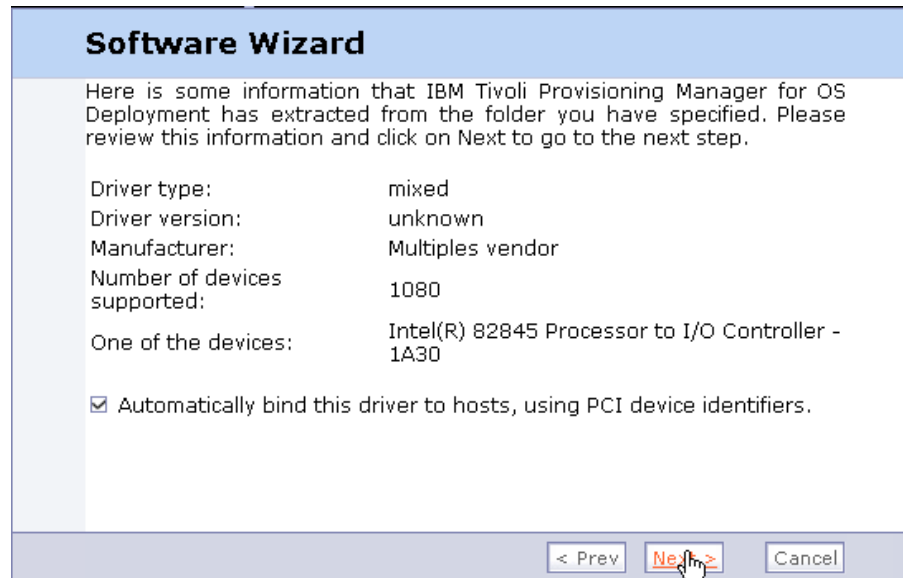

Figure 2-31
6. After selecting the directory, click **Next** and you should see the following. Notice that there is a checkbox for “Automatically bind this driver to hosts, using PCI device identifiers.” as shown in Figure 2-31 on page 40. Select this checkmark.